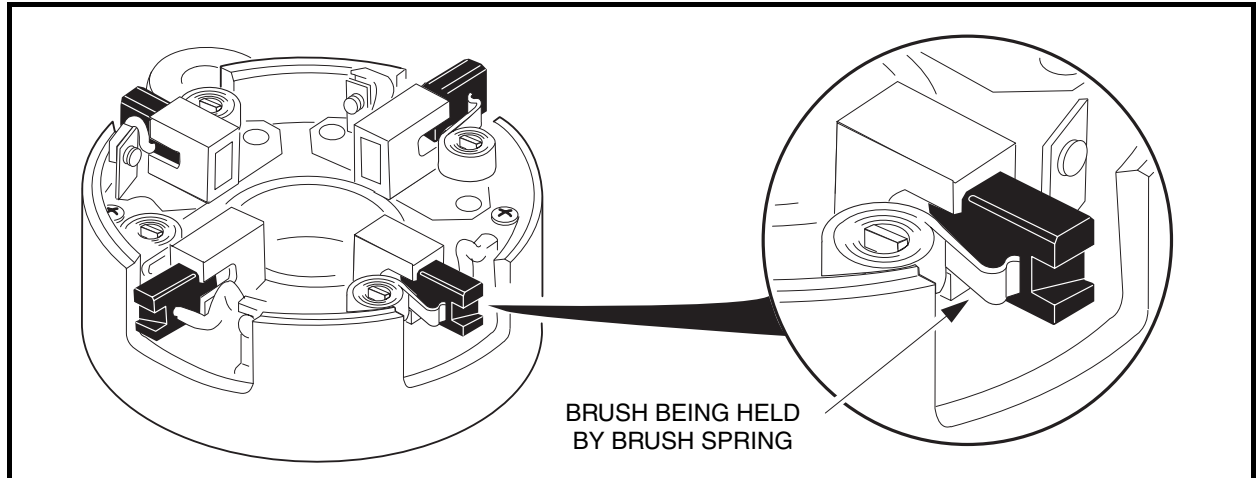

Figure 14-6 Pull Brushes Away From Center of the Commutator End Cover
NOTE: If the brushes are not removed, contact between the brushes and commutator as the commutator end cover is being removed or installed could damage the brushes. Lift the brush springs out of the notches in the brushes and pull the brushes back from the center of the commutator end cover. The springs will rest on the sides of the brushes and help prevent them from sliding towards the center of the cover (**Figure 14-6, Page 14-4**).
2. To prevent contact between the brushes and commutator as the commutator is installed, and possible damage to the brushes, lift the brush springs out of the notches in the brushes and pull the brushes back from the center of the commutator end cover. The springs will rest on the sides of the brushes and help prevent them from sliding towards the center of the cover (**Figure 14-6, Page 14-4**).
- 1.1. Lift the brush springs out of the notches in the brushes and pull the brushes back from the center of the commutator end cover. The springs will rest on the sides of the brushes and help prevent them from sliding towards the center of the cover (**Figure 14-6, Page 14-4**).
8. To prevent contact between the brushes and commutator as the commutator cover is installed, and possible damage to the brushes, lift the brush springs out of the notches in the brushes and pull the brushes back from the center of the commutator end cover. The springs will rest on the sides of the brushes and help prevent them from sliding towards the center of the cover (**Figure 14-6, Page 14-4**).